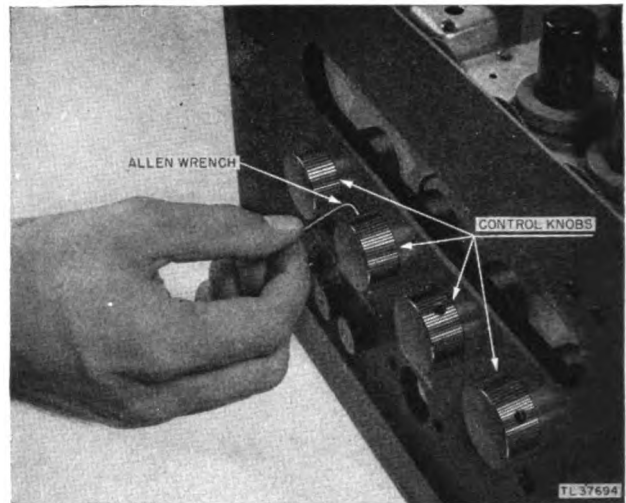

Figure 14. Control knobs showing Allen wrench in use.
**a. INSPECT (I).** Check mechanical operation of the potentiometers. Inspect the assembly and mounting screws and nuts. All metallic parts should be inspected for dust, dirt, and corrosion.
**b. TIGHTEN (T).** Tighten all loose assembly or mounting screws. Tighten the control knobs in place with an Allen wrench. A typical example of the use of the Allen wrench is shown in figure 14.